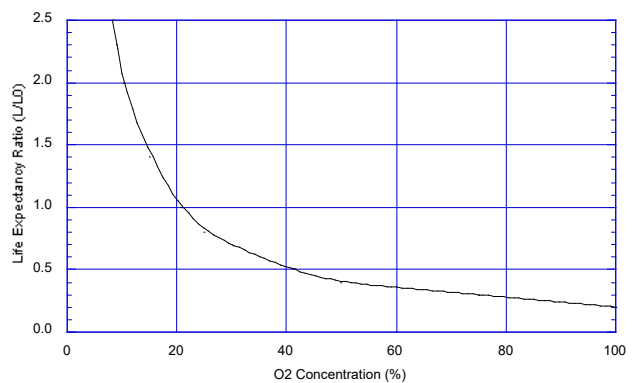

Fig. 9a - Relationship of life expectancy vs. O2 concentration (L0 = life at 20.7% O2)
Figure 9a shows the relationship between life expectancy and O2 concentration for SK-25. The Y-axis indicates the ratio of life expectancy in a given O2 concentration (L) to life expectancy at 20.7% O2 (L0). The greater the O2 concentration, the shorter the life expectancy. The influence of atmospheric pressure on life expectancy is estimated based on the O2 concentration in a given atmospheric pressure.